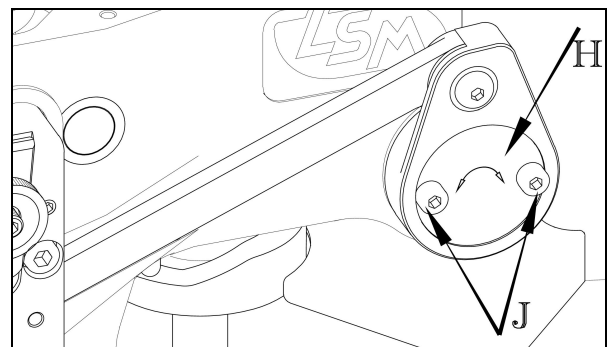

Fig 4
Loosen screws (J) on the adjusting plate (H) as shown in Fig 4. Move the plate clockwise to increase the cutting space, or counter clockwise to decrease. Tighten the screws (J).